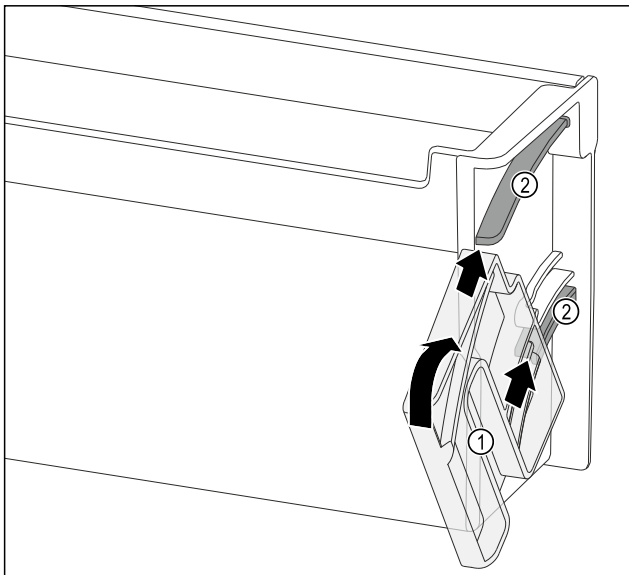

Fig. 99
- Position the turning unit Fig. 99 (1) so that the recesses are exactly opposite the guide channels Fig. 99 (2) of the door rack.
- Turn the turning unit Fig. 99 (1) towards the specified direction.